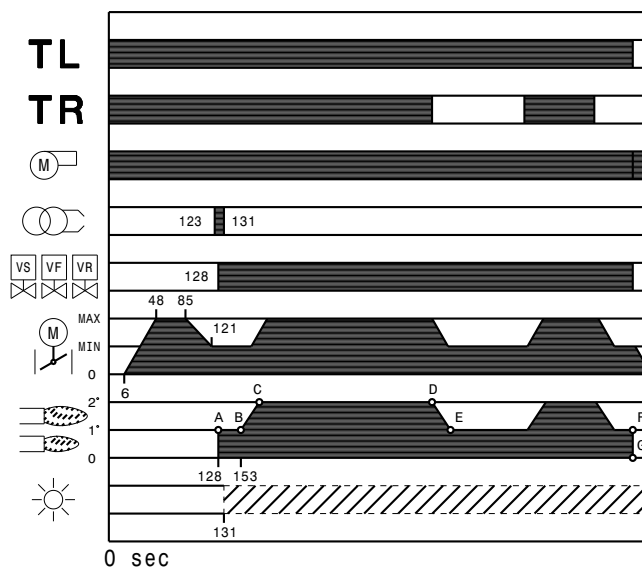

Fig. 34
7.5.2 Steady state operation (Fig. 34)